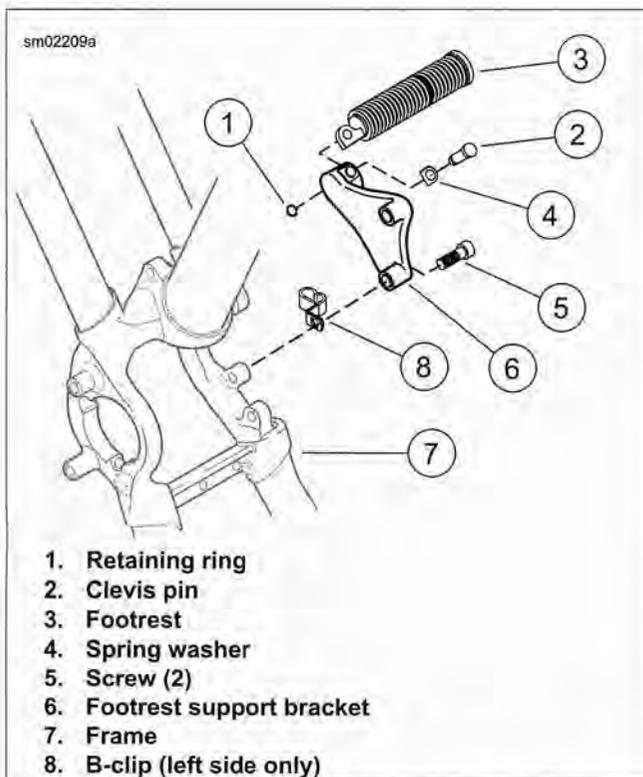

Figure 2-231. Passenger Footrest Assembly (optional on some models)
1. See Figure 2-231. Remove retaining ring (1), clevis pin (2), footrest (3) and spring washer (4). Discard retaining ring.
2. Remove two screws (5) and footrest support bracket (6) from frame (7).
See Figure 2-231. On left side of vehicle, a B-clip (8) is positioned between footrest support bracket (6) and lower support bracket hole on frame (7). Make sure this clip is positioned between footrest support bracket and frame when attaching support bracket in the next step.
1. See Figure 2-231. Attach footrest support bracket (6) to frame (7) with two screws (5). Tighten to 45-50 ft-lbs (61-68 Nm).
2. Install footrest (3) on footrest support bracket with spring washer (4). Make sure spring washer is positioned inside support bracket mounting boss with the square edge toward the inside.
3. Align holes and push clevis pin (2) from top down through hole in support bracket. Secure with **new** retaining ring (1).